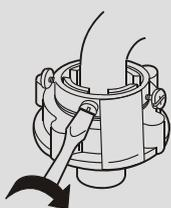

Figure 4
4、 Install the back cover. Hang the under side of the back cover on the cabinet firstly, then push the left , the right tab and the upside into the cabinet. Do not do it strongly, and fasten the screws. (Figure 4)
(Figure 4)
3. Fasten the four screws evenly. See to Figure 4.